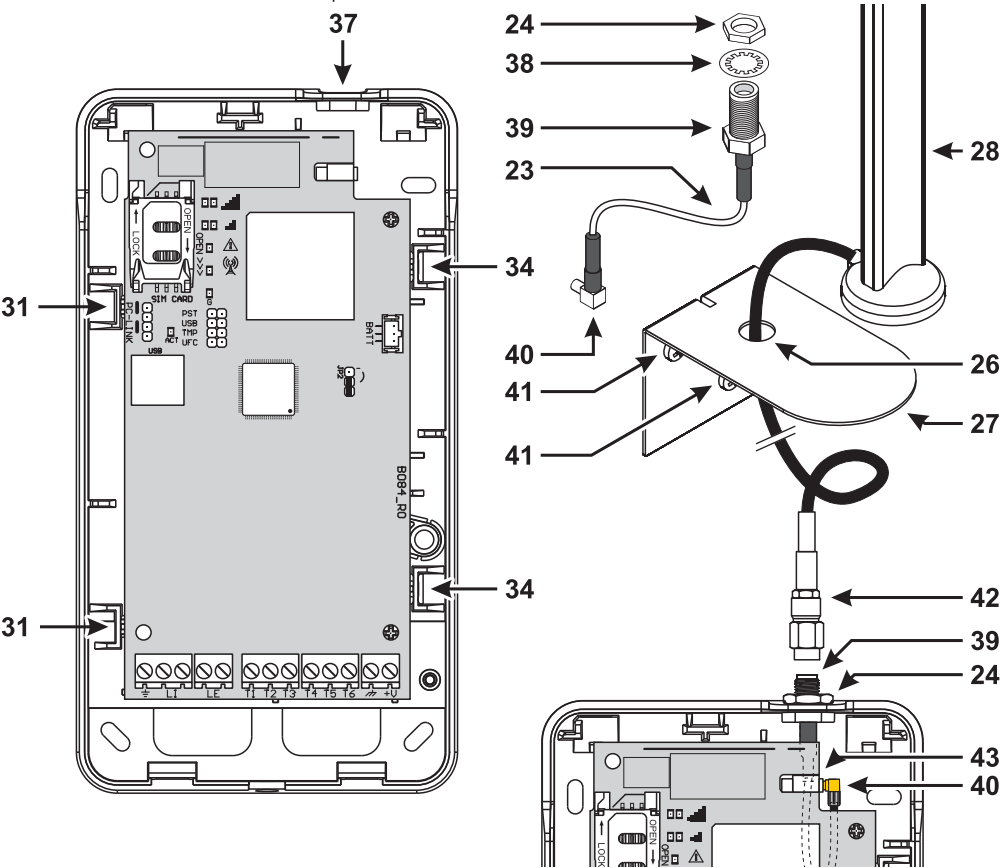

Figure 5 – Installing the antenna ANT5-02.
The **ANT5-02** has greater gain than the communicator's integrated antenna in the version with housing, and can be mounted indoors within 2 meters of the communicator, to improve GSM reception, as described below and shown in figure 5.
*Make sure the adapter cable is routed as shown in figure 5.*